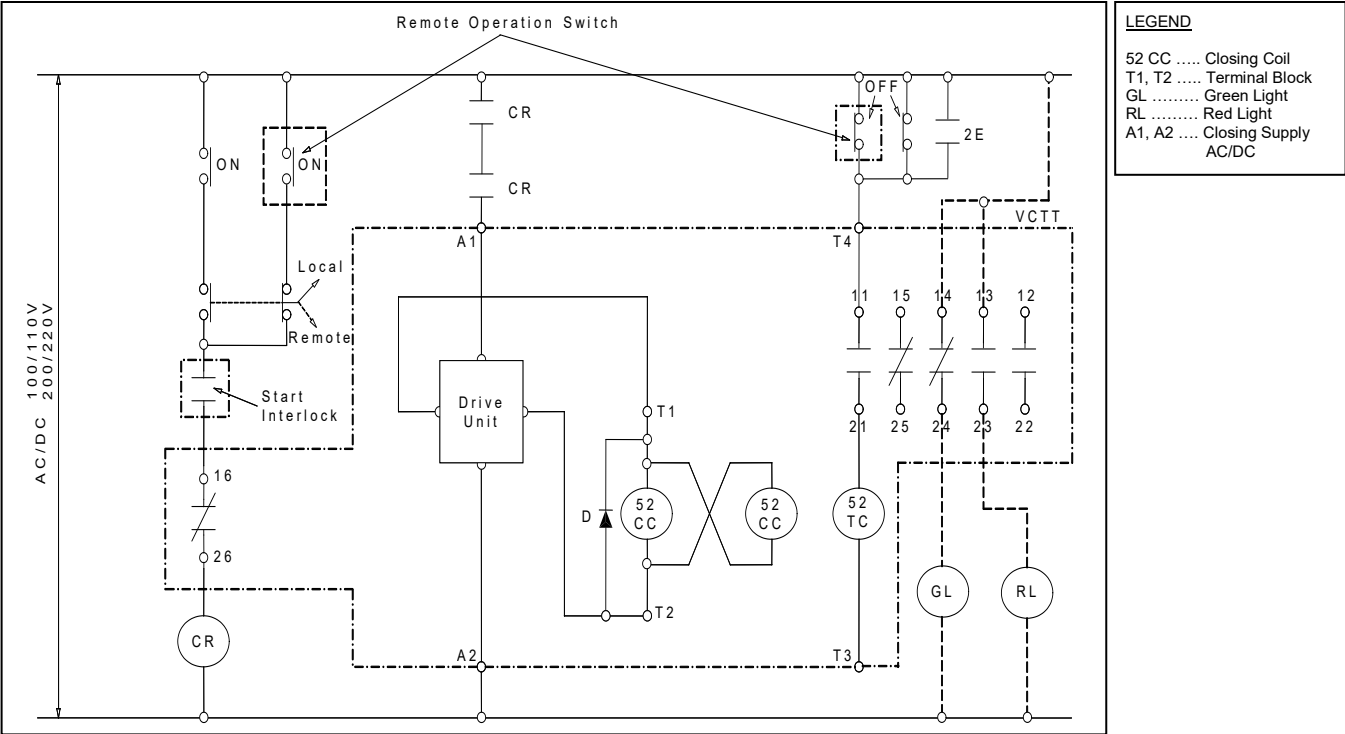

Figure 9 – Standard operation circuit of the latched type (shunt trip)
3. The Auxiliary switch contact corresponding to terminals 11 and 21 should be used for the trip circuit and terminals 16 and 26 for the control relay circuit (Figure 9).